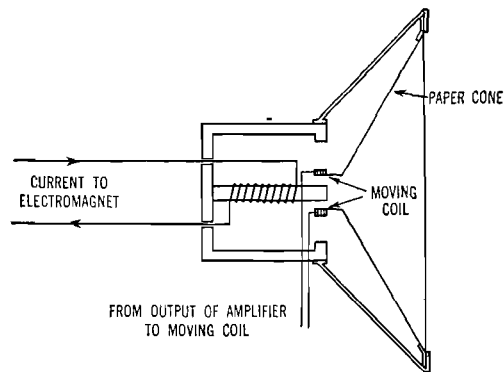

Fig. 40.6. The loud-speaker.
*The Loud-Speaker.* The loud-speaker contains either a permanent magnet or an electromagnet which acts on the small moving coil as shown in Figure 40.6. When current from the amplifier flows through the moving coil, the coil is attracted to the magnet,